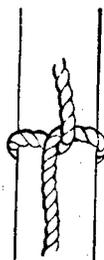

FIGURE 3.—Half hitch.
F. WHIPPING ROPE	<ol style="list-style-type: none"> 1. See figure 3, Method of Whipping Rope, FCDA, TM-14-1, p. 15. (Demonstrate). 2. Dip whipped end in shellac, varnish, or lacquer.